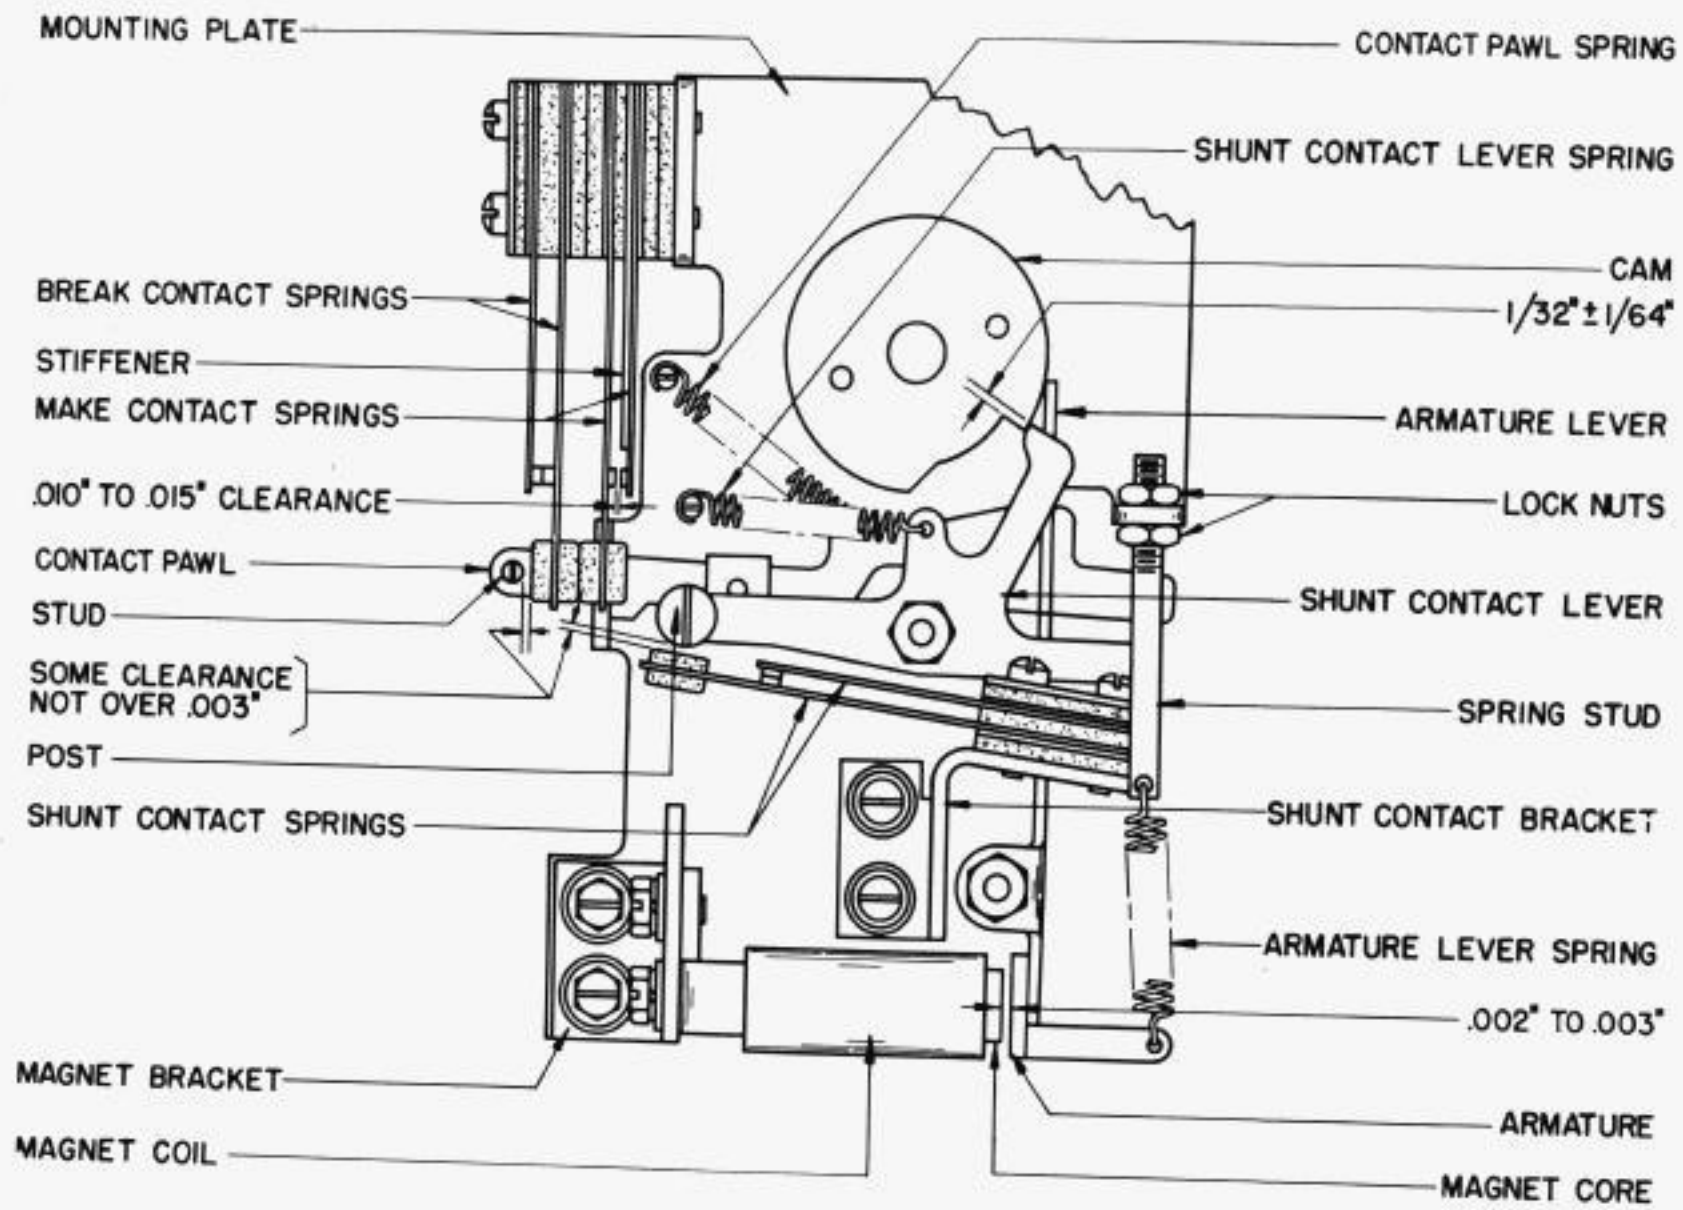

FIGURE 1
MOUNTING PLATE ADJUSTMENT (Figure 1)
MAGNET BRACKET ADJUSTMENT (Figure 1)
With the armature in its attracted position, the magnet core should be approximately equidistant from the ends and sides of the armature. To adjust, position the magnet core by means of the enlarged holes in the magnet bracket. Recheck the MAGNET BRACKET ADJUSTMENT. See Figure 1.
SHUNT CONTACT BRACKET ADJUSTMENT (Figure 1)
- (1) With the contact pawl in the unlatched position and the push rod in its disabled position, initially tension the long BREAK contact spring against its short contact spring. Under this condition, there should be some clearance not over .003" between the insulator on the long BREAK contact spring and the stud on the contact pawl. See Figure 1. To adjust, bend the short BREAK contact spring.
- (1) With the contact pawl in the unlatched position, the insulator on the long MAKE contact spring should just make contact with the insulator on the long BREAK contact spring. See Figure 1. To adjust, bend the long MAKE contact spring.
- (2) With the contact pawl in the unlatched position, initially tension the short MAKE contact spring against its stiffener. Under this condition the MAKE contact gap should be from .010" to .015". To adjust, bend the stiffener.
Unhook the contact pawl spring from the contact pawl, and its spring post and attach the loop of one end to some convenient object. With an 8 oz. scale hooked to the free loop it should require a pull of 3-1/2 to 4 ozs. to extend the spring to a length of 1-1/32", when pulling horizontally. See Figure 1. Replace the spring.
With the shunt contact lever on the high part of its cam, hook an 8 oz. scale to the lever (just under the point of engagement of the shunt contact lever with the cam) and pull in a direction parallel to the side of the base casting. See Figure 1. It should require 6 to 8 ozs. to start the shunt contact lever moving away from the cam.
Unhook the armature lever spring from the armature lever and hook a 2 lb. scale through the free loop. It should require a pull of 11 to 13 ozs. to extend the spring to a length of 1-1/2", when pulling horizontally. See Figure 1. Rehook the spring.
transmitter distributor is equipped with an end-of-tape stop feature, it will be necessary to short-circuit the associated contact or to run tape through the transmitter. The break-lock mechanism should operate and stop transmission within two revolutions of the distributor after each restarting with the push rod. When properly adjusted, the break-lock mechanism should stop transmission when the signal line current is .020 ampere or less, but should not stop transmission at any time when the steady current is .025 to .030 ampere. To adjust, loosen the two nuts which lock the armature lever spring stud and position the stud. See Figure 1.